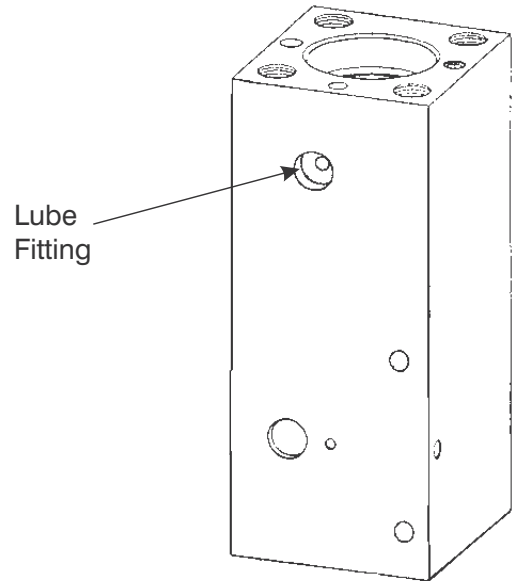

Figure 8-3. Lubricating the Demolition Tool
(Refer to Figure 8-3.)
2. Attach grease gun to lubrication fitting. See Figure 8-3.